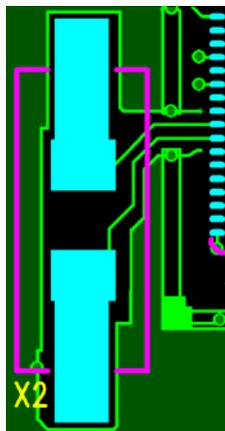

Figure 2 Sample 20 MHz Crystal Routing
4. Noise from other digital signals can couple onto the 20 MHz crystal reference and impair the radio performance. Traces from the 20 MHz crystal should be routed on the same outside layer as the Eterna QFN, with no overlap from any other signal, as shown in Figure 2. The adjacent layer on the PCB shall provide a ground plane, isolating the crystal traces from other traces on the PCB. The crystal leads and the corresponding traces should be surrounded by a co-planer ground trace to reduce coupling onto the crystal pads and traces. If a shield is present in the design the signals should rout through an opening in the exposed metal trace described in the RF shield section below.